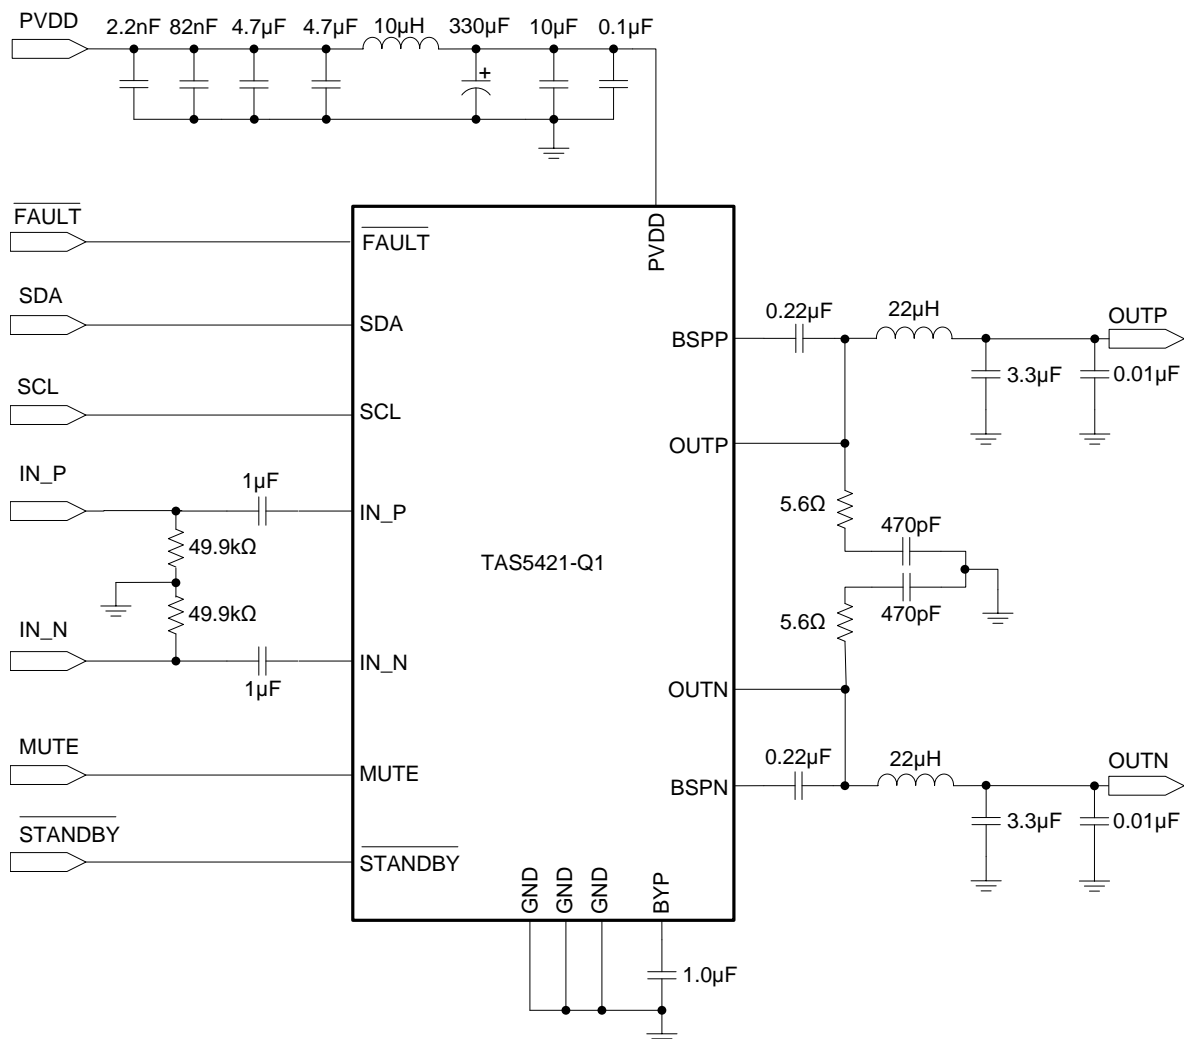

Figure 17. TAS5421-Q1 Typical Application Schematic
The output stage uses dual NMOS transistors; therefore, the circuit requires bootstrap capacitors for the high side of each output to turn on correctly. The required capacitor connection is from BSTN to OUTN and from BSTP to OUTP as shown in Figure 17.
- Step 1: Hardware Schematic Design: Using the Figure 17 as a guide, integrate the hardware into the system schematic.